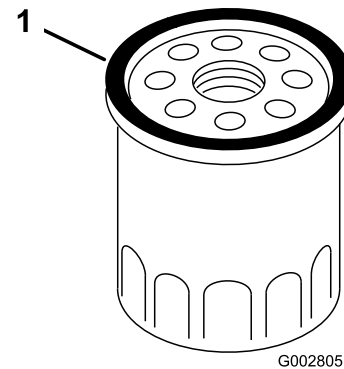

Figure 29
- Use your finger to coat the gasket on the new filter with oil (Figure 29).